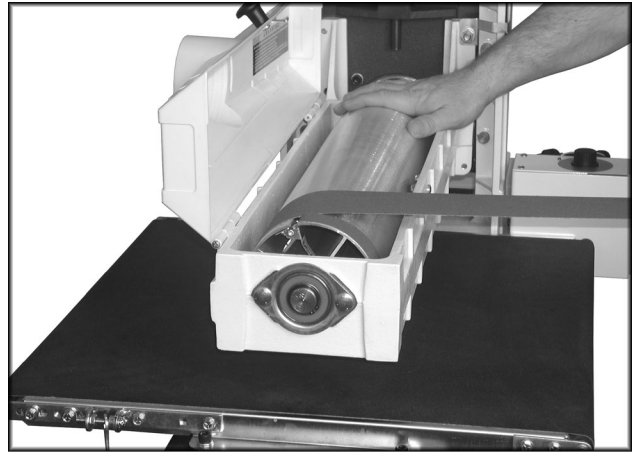

Fig. 9
5. Wrap abrasive strip around the drum, being careful not to overlap the windings, see Figure 9.